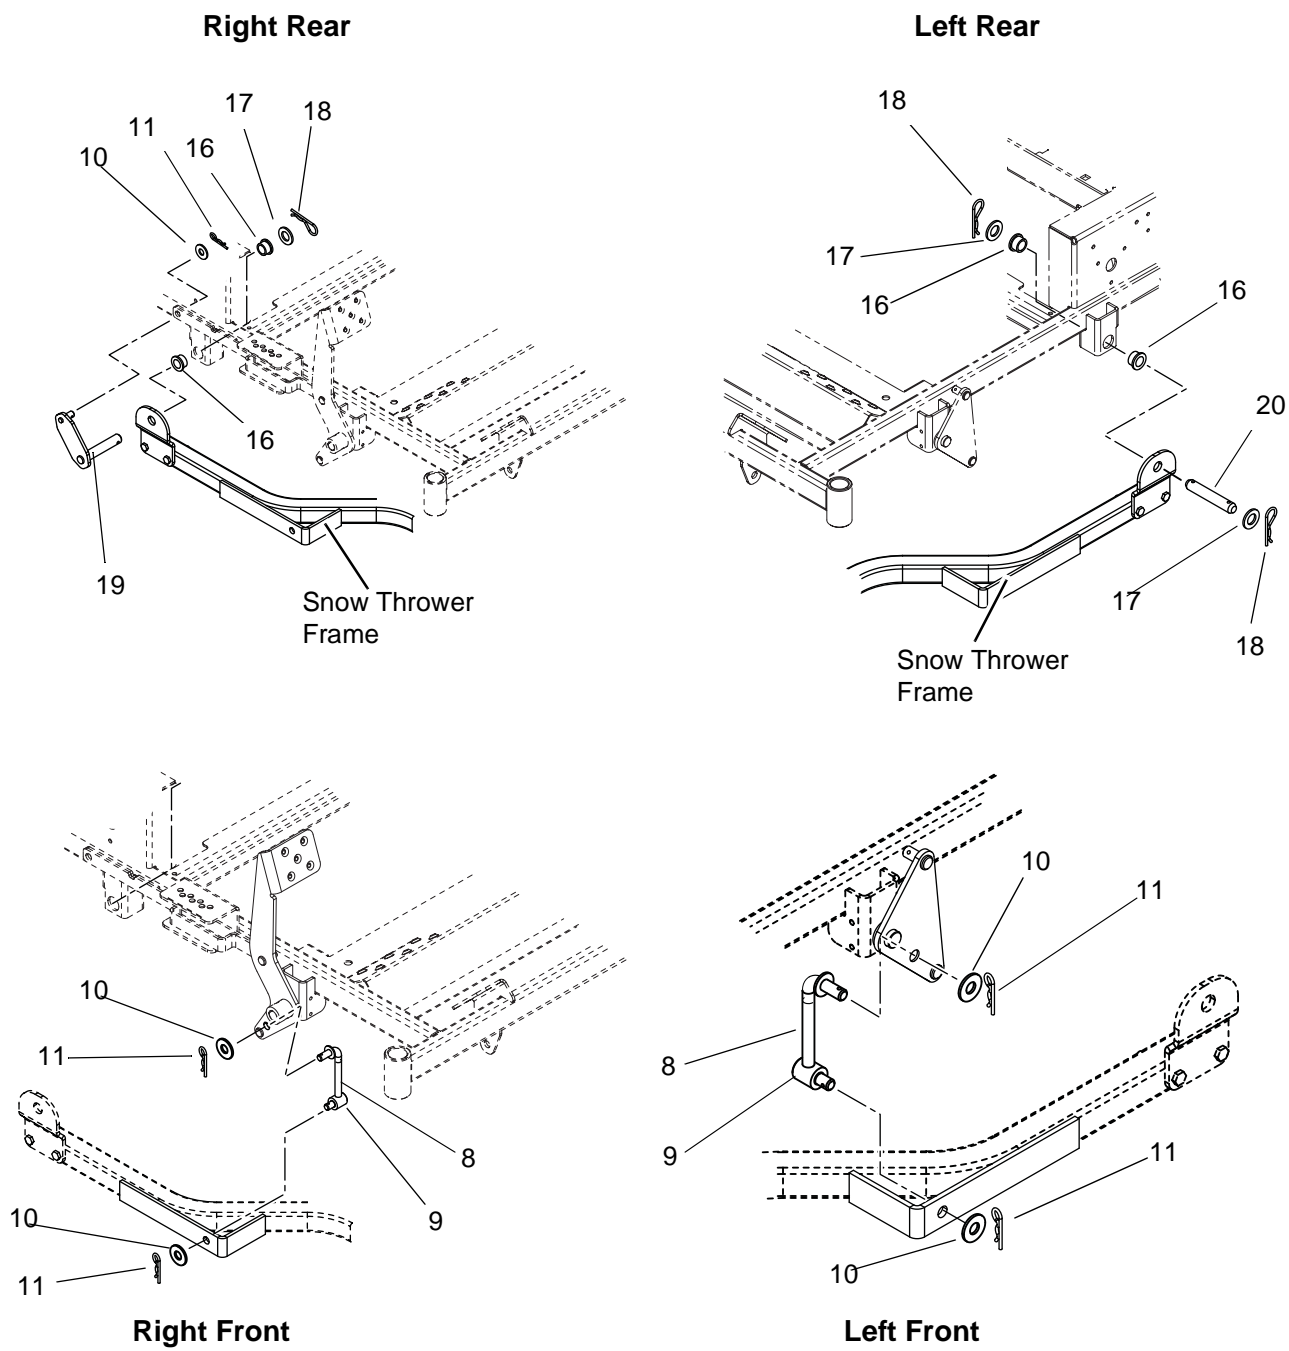

Figure 8
Install Snow Thrower Frame on Unit (Figure 7 and Figure 8)
4. Connect the snow thrower frame to the left side of the unit with two 3/4 x 1 x 5/8 x 1-1/4 flange bushings (item 16), left rear lift pivot pin (item 20), two 13/16 x 1-1/2 x 9/64 flat steel washers (item 17) and 5/32 x 2-15/16 hair pins (item 18). See figure 8.
5. Connect the snow thrower frame to the right side of the unit with two 3/4 x 1 x 5/8 x 1-1/4 flange bushings (item 16), right rear lift pivot pin (item 19), one 1-1/4" flat steel washer (item 10) and #16 hair pin (item 11), and one 13/16 x 1-1/2 x 9/64 flat steel washer (item 17) and 5/32 x 2-15/16 hair pin (item 18). See figure 8.
6. Install 1/2" trunnions (item 9) on lift links (item 8).
7. Install a lift link (item 8) on front lift weldment and on the lift pedal with 1-1/4" flat steel washer (item 10) and #16 hair pin (item 11). See figure 8.
8. On each side of the unit connect 1/2" trunnion (item 9) to the snow thrower frame with 1-1/4" flat steel washer (item 10) and #16 hair pin (item 11). See figure 8.
7. Remove snow thrower from unit (see figure 8 on page 10).